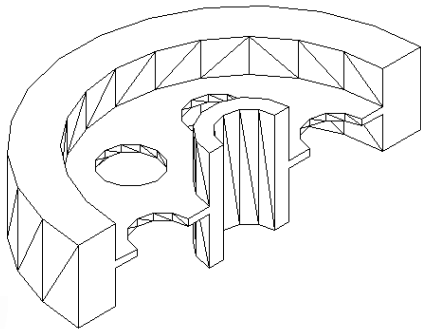

Figure 24-24: The solid after subtracting the extruded circle and applying the HIDE command.
8. Use the HIDE command to hide the model. Your drawing should look like Figure 24-24.